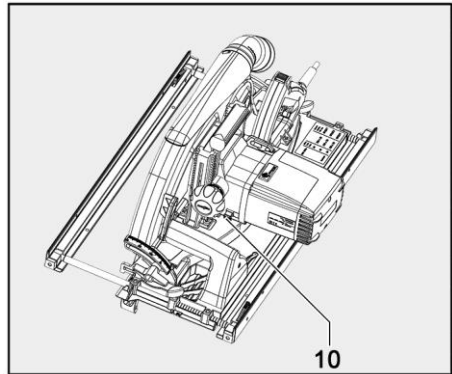

Fig. 7: Locking the saw blade
10. Position the new saw blade (14) on the rear flange (16).
- Ensure that the direction of rotation is correct when you install the saw blade. The saw teeth or the arrow on the saw blade (14) must point in the direction of the arrow (15) on the machine.
11. Fit clamping flange (13) and flange screw (12).
12. Press and hold the locking pin (see Fig. 7: Locking the saw blade).
13. Using the Allen key (B), turn the flange screw (12) **clockwise** to tighten it.